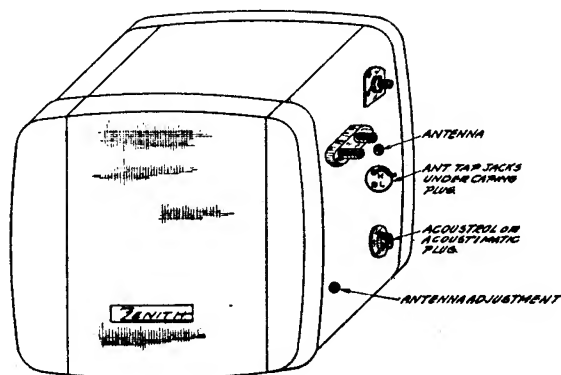

Fig. 8
"L" position, depending on the capacity of the antenna being used. The "H" position must be used for antennas with a capacity in the range of from 100 to 500 mmfd. The "L" connection must be used for low capacity antennas of from 0 to 125 mmfd. Compare this listing with that given under the various antennas, and the proper position will easily be recognized. After selecting the position desired, place the capping plug back over the hole to prevent motor noise from entering into the antenna circuit of the receiver. Connect the antenna proper by means of the Delco-Remy connector shown in Fig. 8.
Manual Tuning: Press the MANUAL button on the automatic key board. This disconnects the automatic system and allows operation of the receiver from the standard tuning mechanism. After adjusting the dial calibration accurately, turn the volume control up full and tune to a weak station near 1400 K.C. Adjust the antenna trimmer A (Fig. 8) to the point of greatest volume. This completes antenna alignment for manual operation. The trimmer does not have to be adjusted at any other point on the dial.
Automatic Tuning: Press automatic button 2 (Fig. 8) This will disconnect the manual tuning mechanism and place the automatic buttons into service. After button 2 has been pressed, turn adjusting screw 2 in either direction until a weak station between 1100 to 1000 K.C. is heard. Now adjust trimmers B and C on the automatic assembly for maximum signal strength of the weak station tuned
Study Fig. 8 carefully. Although simple in adjustment, best results will only be obtained if made accurately and by the following procedure.
4. Follow above procedure for buttons 3, 4 and 5 using the ranges shown on Fig. 8.